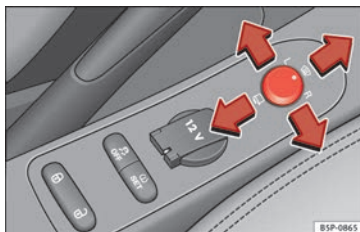

Fig. 73 Exterior mirror controls.
1. Turn knob » Fig. 73 to position **L** (left exterior mirror).
- Turn the knob forward » Fig. 73 so that the heated rear vision mirrors warm up and the
- Turn the control » Fig. 73 to position **Δ** to fold in the exterior mirrors. You should always fold in the exterior mirrors if you are driving through an automatic car wash. This will help prevent damage.